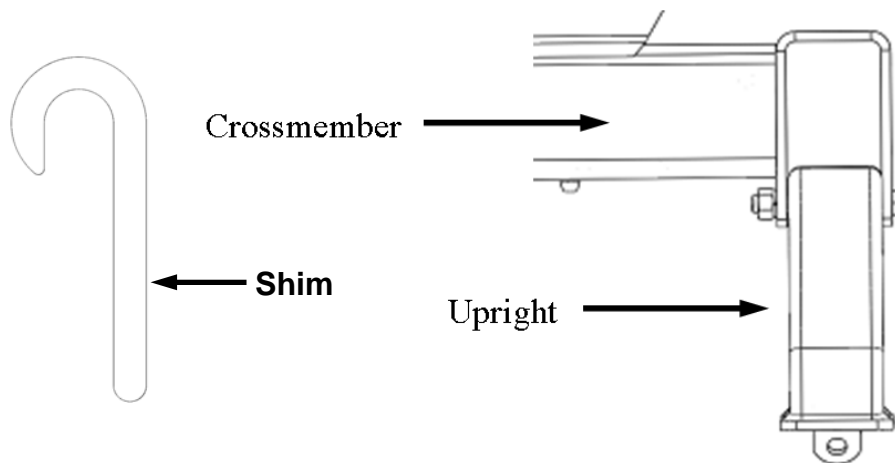

Figure 6
10. Check each rail hitch pin for freedom of movement in the bed rail connection before tightening the 5/8" carriage bolts. Adjust uprights, if necessary, by placing shim 31582 or 30243 between the upright and the cross member to obtain free pin movement. See Figure 6. Shims 31582 & 30243 sold separately.